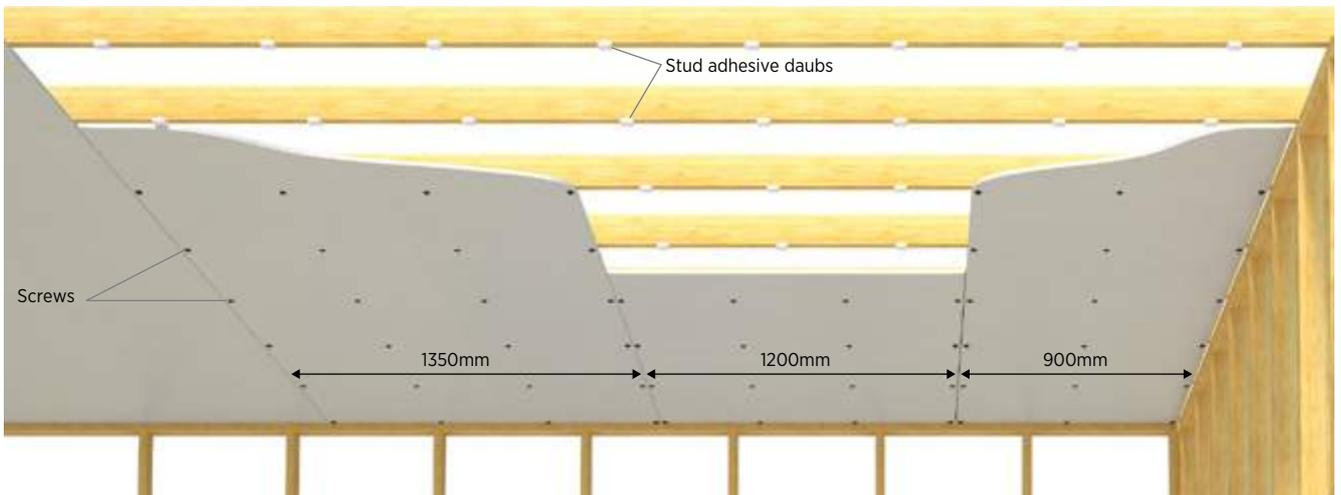

Figure 20: **Combination adhesive and screw fixing to ceilings - 1/3 fixing method**
- Use the 1/3 Fixing Method as illustrated in Figure 20